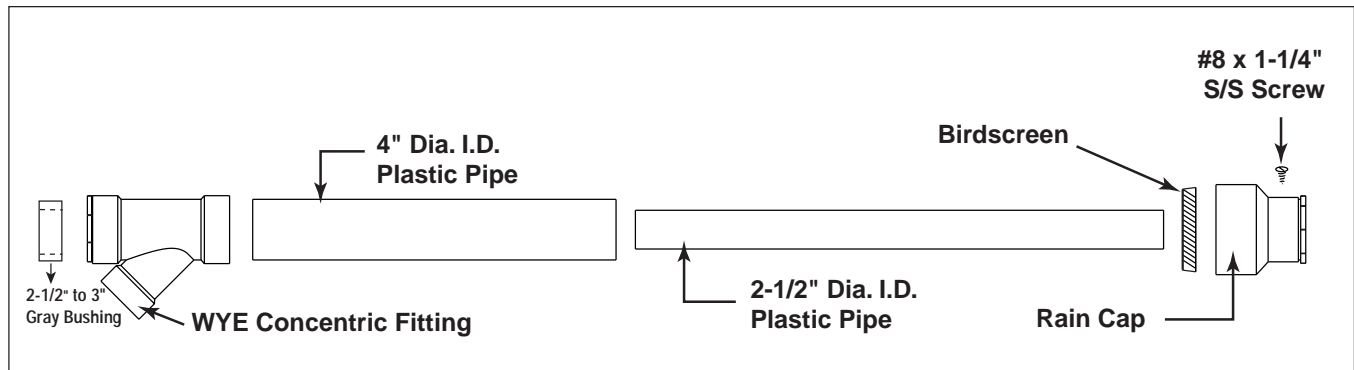

Figure 1. Kit Components
Concentric flue kit is shipped assembled but not cemented. Disassemble the kit and cement per Figures 1 and 2.
3. Partially assemble the concentric vent termination kit per Figures 1 and 2.